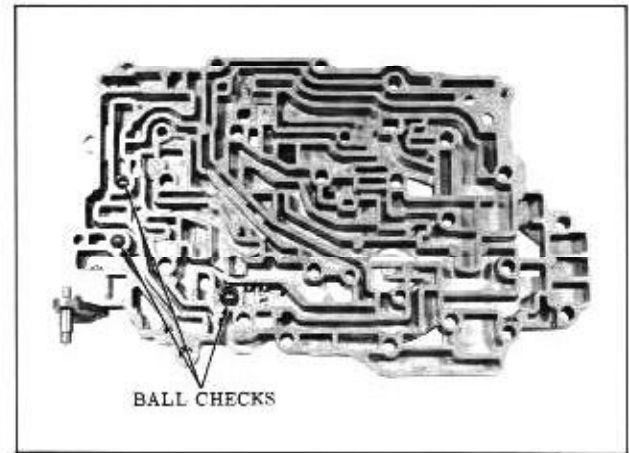

Fig. 3-88 Channel Plate Ball Checks
9. Remove the 3 exposed ball checks, then the channel plate to valve body spacer. (Fig. 3-88)
1. Install 2 medium and one large ball checks into the ball check seats in channel plate. (Fig. 3-88)